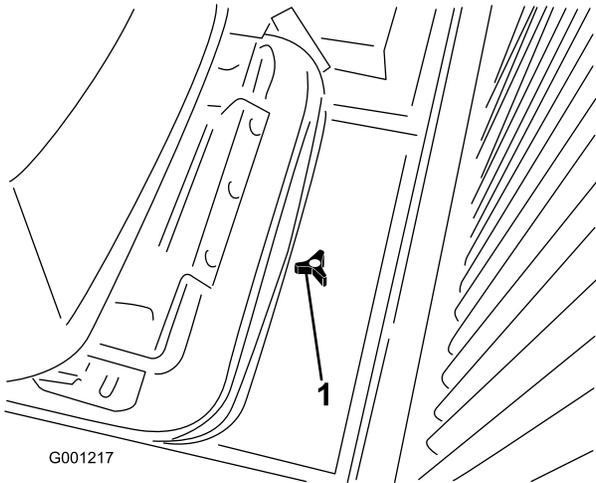

Figure 32
1. Loosen the knob and remove the access cover at the rear of the seat mounting plate (Figure 32).